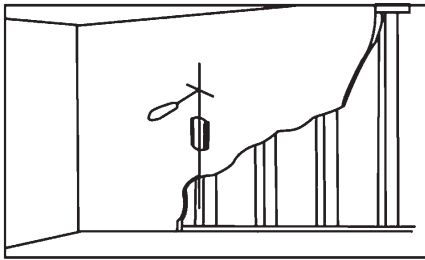

Fig. 3b
1. Use a pencil, awl, or a nail to mark the location of the wall stud centers (Fig 3b) after locating the stud with an electronic stud locator. The distance between marks should not be less than 16 inches (Studs must not be less than 16 inches (40.6 cm).